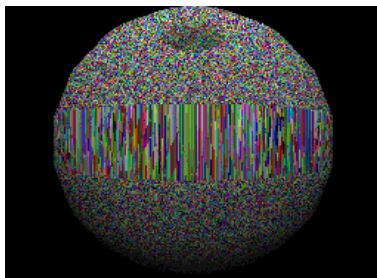

Figure 6: Intel740 Power Simulation Software Screen Capture
- 3) After the start of the program, the sphere shown in Figure 6 remains motionless. Allow the test to continue for **45 minutes**.